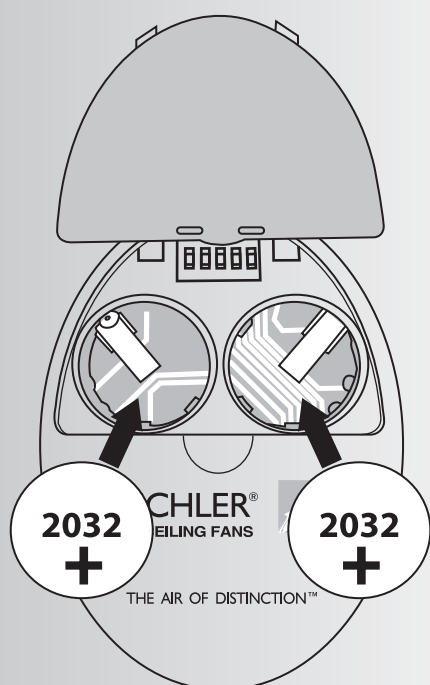

Fig. 17
2. Insert both batteries and make sure they are seated correctly in each recess with the Positive + sign facing up. Replace the battery cover. (Figure 17)